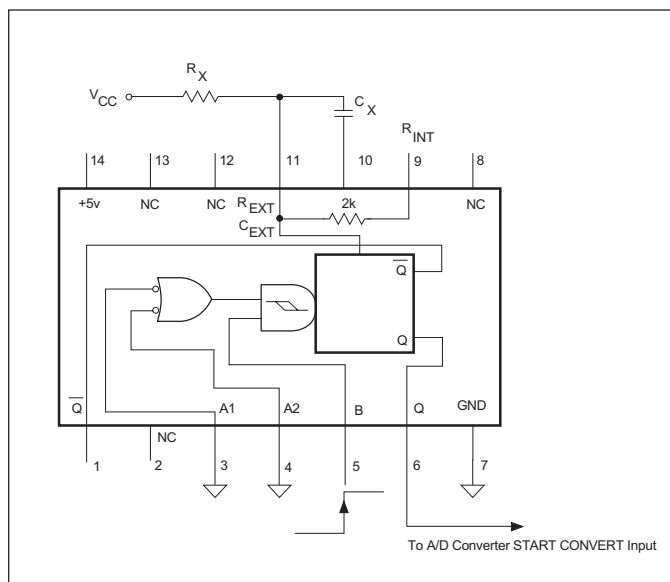

Figure 5. Typical Series '121 Connections for Pulse Generation
The basic output pulse width is determined by using an external capacitor (Cx) in conjunction with a resistor, as shown in Figure 5. The internal 2 k Ω resistor may be used instead of an external resistor (R) by connecting RINT (pin 9) to Vcc (pin 14). The pulse width can vary from 30 nanoseconds to 28 seconds.